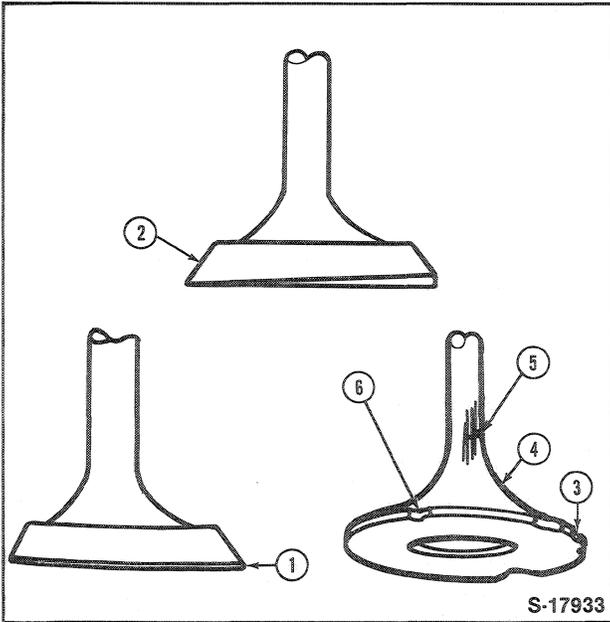

Figure 34
- Using a soft wire brush, clean all carbon deposits from the valves. Inspect the condition of the valves and discard any that are badly burned, cracked or bent as shown, Figure 34.